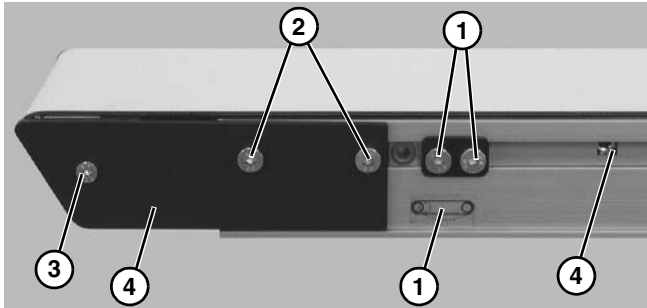

Figure 70
1. On both sides of conveyor, use a 4 mm hex-key wrench to loosen cam fastening screws (**Figure 70, item 1**) and slide cam assemblies toward the center of the conveyor.
2. On both sides of conveyor, use a 4 mm hex-key wrench to loosen head plate fastening screws (**Figure 70, item 2**) to remove belt tension. Then remove belt from end of conveyor.
3. On one side of conveyor, use a 3 mm and 4 mm hex-key wrench to remove head plate fastening screws (**Figure 70, item 3**) and (**Figure 70, item 2**) and remove head plate (**Figure 70, item 4**).
5. After replacing rollers, re-install head plate (**Figure 70, item 4**). Use a 3 mm hex-key wrench to tighten one (1) fastening screw (**Figure 70, item 3**) to 30 in-lb (3.4 Nm). Leave two (2) fastening screws (**Figure 70, item 2**) loose for belt tensioning.